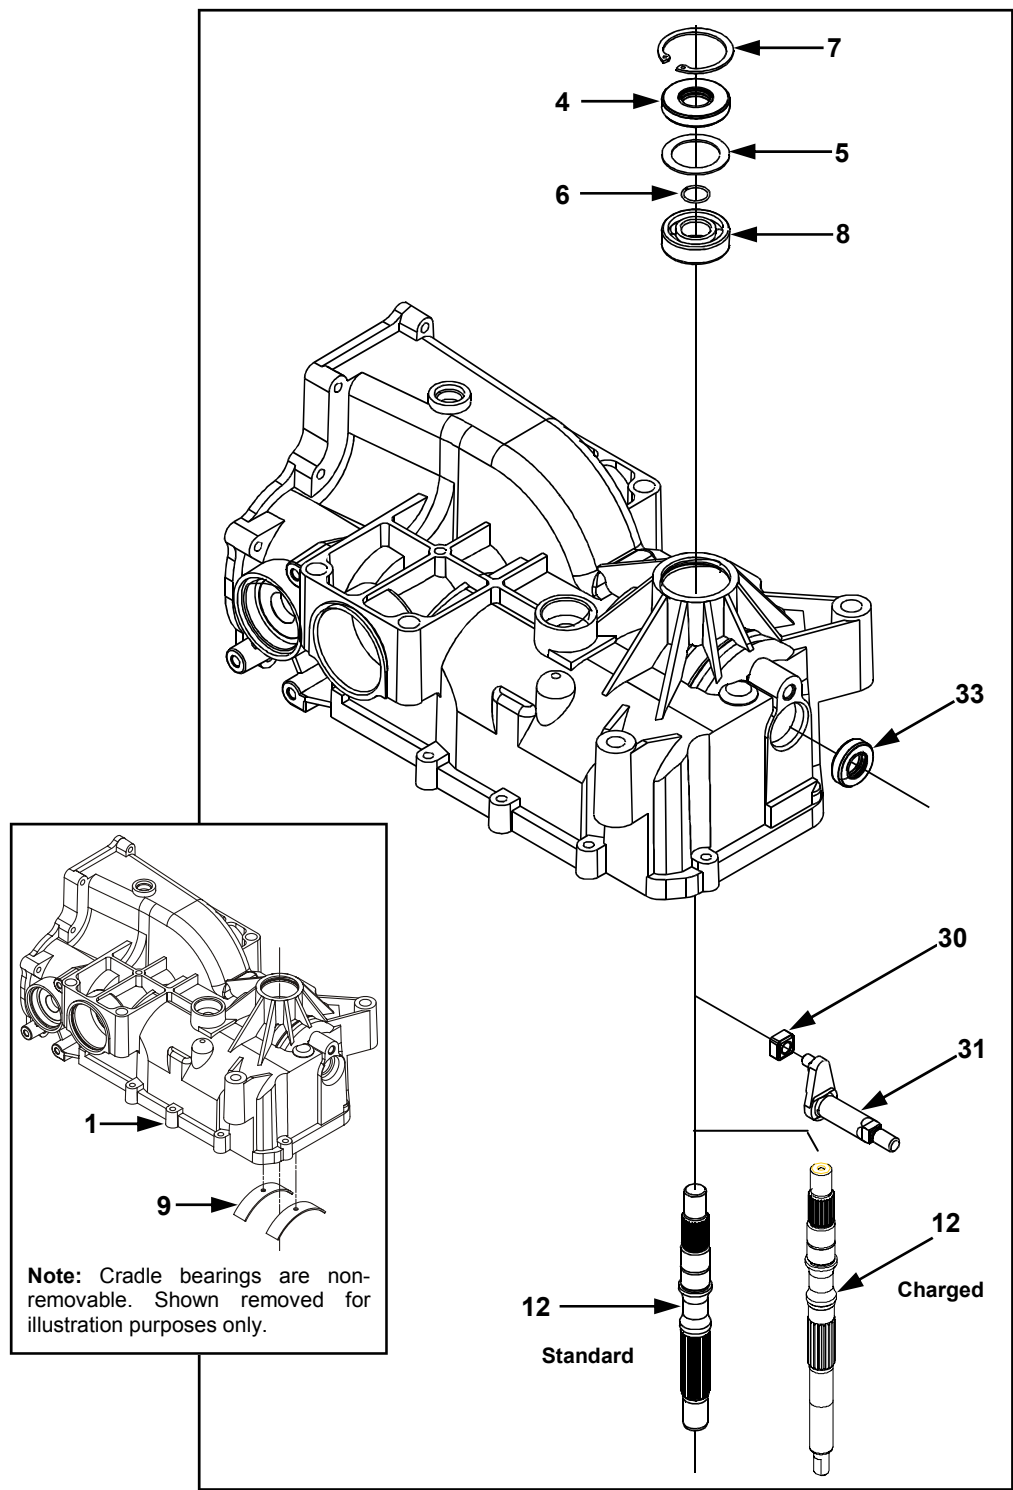

Figure 17. Input Shaft and Trunnion Arm Assembly
7. Remove the three screws (44) holding the center section (3) to the upper housing (1). Lift to remove the center section (3) and motor cylinder block assembly (21). Remove the two pins (43).
8. Remove the motor cylinder block assembly (21).
9. Remove the motor block thrust bearing assembly (25). **Note: The thick race is located nearest to the pistons when assembled properly.**
10. Remove the pump block assembly (15).
11. Remove the pump block spring (14), washer (24) and swashplate assembly (10).
12. Remove the thrust bearing assembly (11). **Note: The thick race is located nearest to the pistons when assembled properly.**
13. Remove the slot guide (30, Fig. 17).
14. Remove the bypass arm retaining ring (42), bypass arm (41) and bypass lip seal (40). Discard the lip seal.
1. Install a new bypass lip seal (40). Install the bypass arm (41) and retaining ring (42) onto the bypass actuator (39).
2. Install the slot guide (30, Fig. 17).
3. Install the swashplate assembly (10) (including the thrust bearing assembly). **Note: Install the thrust bearing assembly (11) with the thick race towards the pistons.**
4. Actuate the trunnion arm (31) and swashplate (10) to verify free movement.
5. Install the pump block washer (24) and spring (14).
6. Install the pump block assembly (15).
7. Center the by-pass actuator (39) in the housing pocket.
Refer to Figure 17.